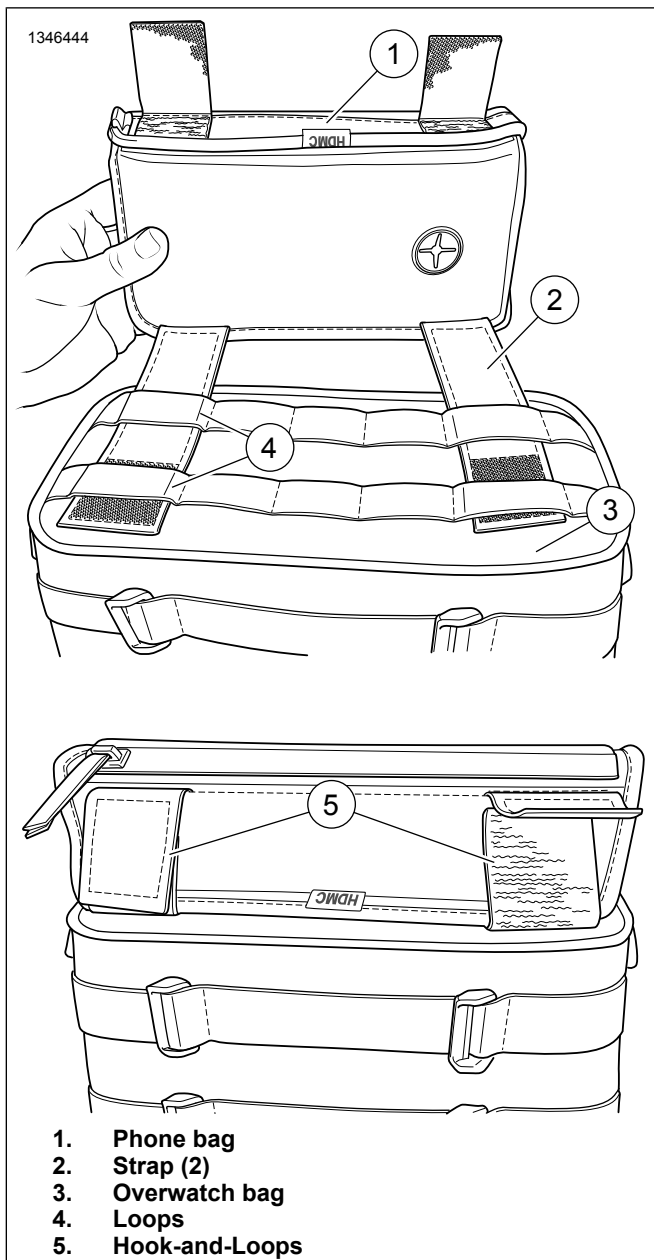

Figure 4. Attach Phone Bag to Overwatch Bag
1. See Figure 4. Attach phone bag (1) on bag (3).
- a. Slide straps (2) through loops (4) on top side of bag (3).
- b. Secure with hook-and-loops (5).
- c. Phone bag (1) can be mounted frontward or rearward facing on bag (3) depending on bag orientation.